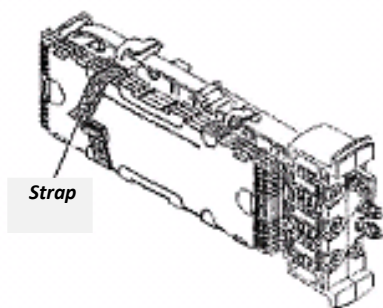

Figure 11b – Securing Splice Trays
- 15.03** After splicing is complete and the trays are stored, secure them by using the hook and loop straps provided. See **Figure 11b**.